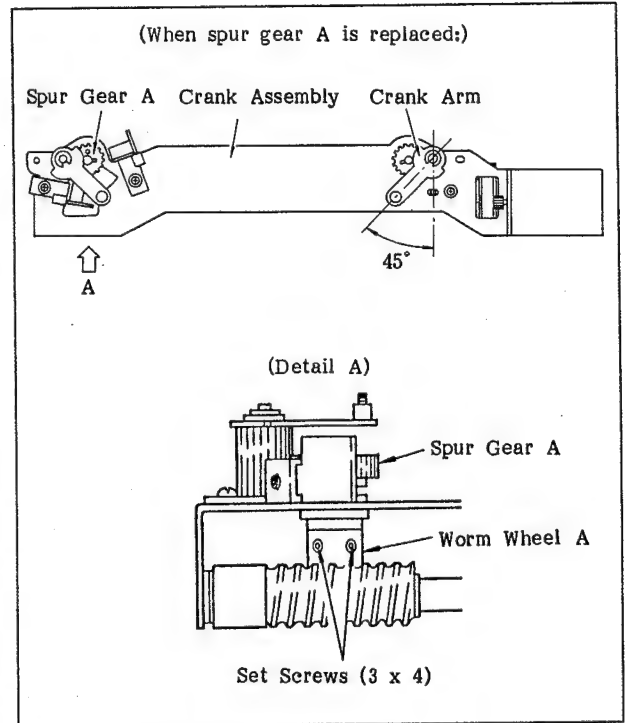
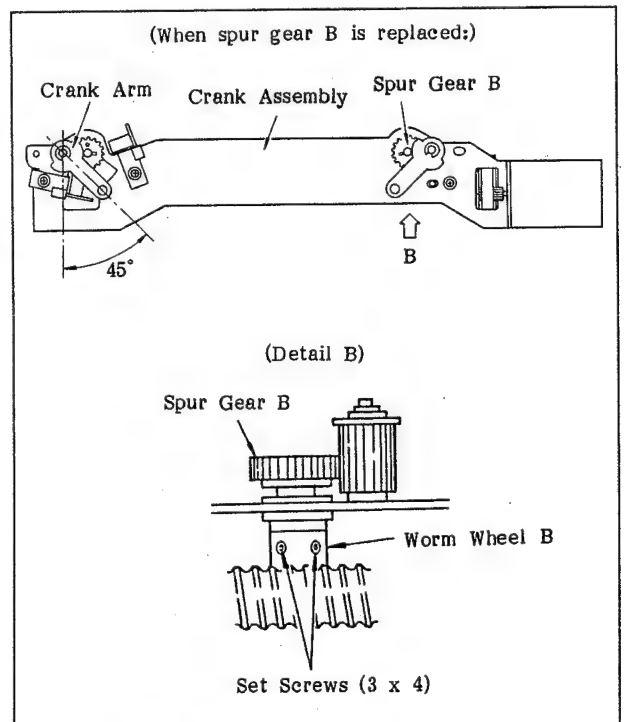

Fig. 6-40 Replacing Spur Gear A
Fig. 6-41 Replacing Spur Gear B
5. Replace spur gear (A or B) with a new one, and then turn the crank arm in the direction of the arrow shown in the drawing (Figure 6-40 in case of spur gear A, or Figure 6-41 in case of spur gear B). Assemble the components so that the two tap holes of worm wheel (A or B) are in the positions as shown in the figures.